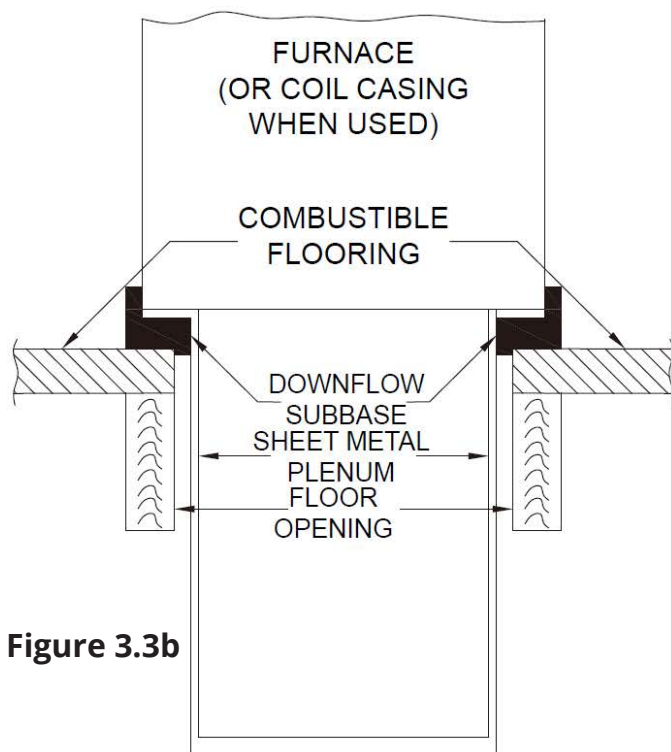
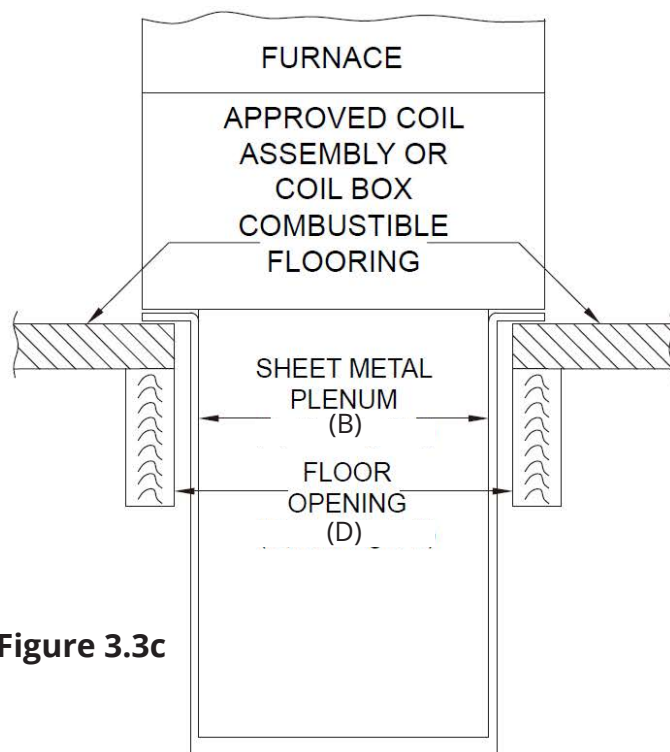

Figure 3.3b
Figure 3.3c
4. If a downflow subbase is used, install as shown in Figure 3.3b. If Coil Assembly or Coil Box is used, install as shown in Figure 3.3c.